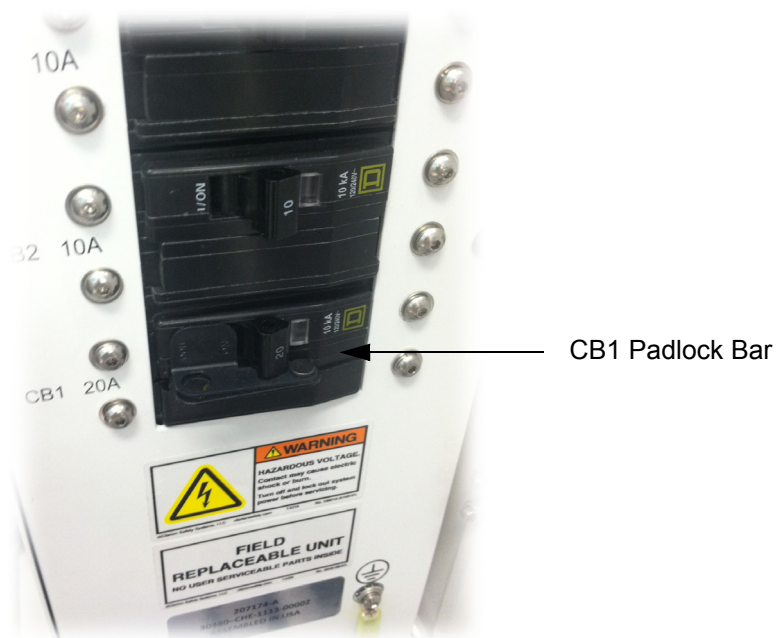

Figure 6-4: Padlock
4. Rotate CB1 padlock bar to the locking position as shown in Figure 6-4.